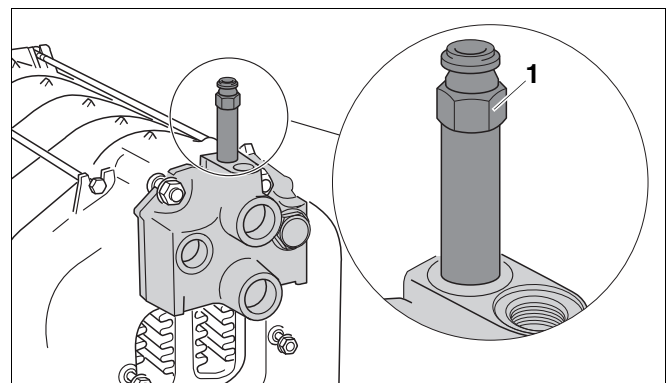

Fig. 22 Sealing the sensor well
- Close front and back connections (fit vent to the Rp ¾ connection block (→ Fig. 22).